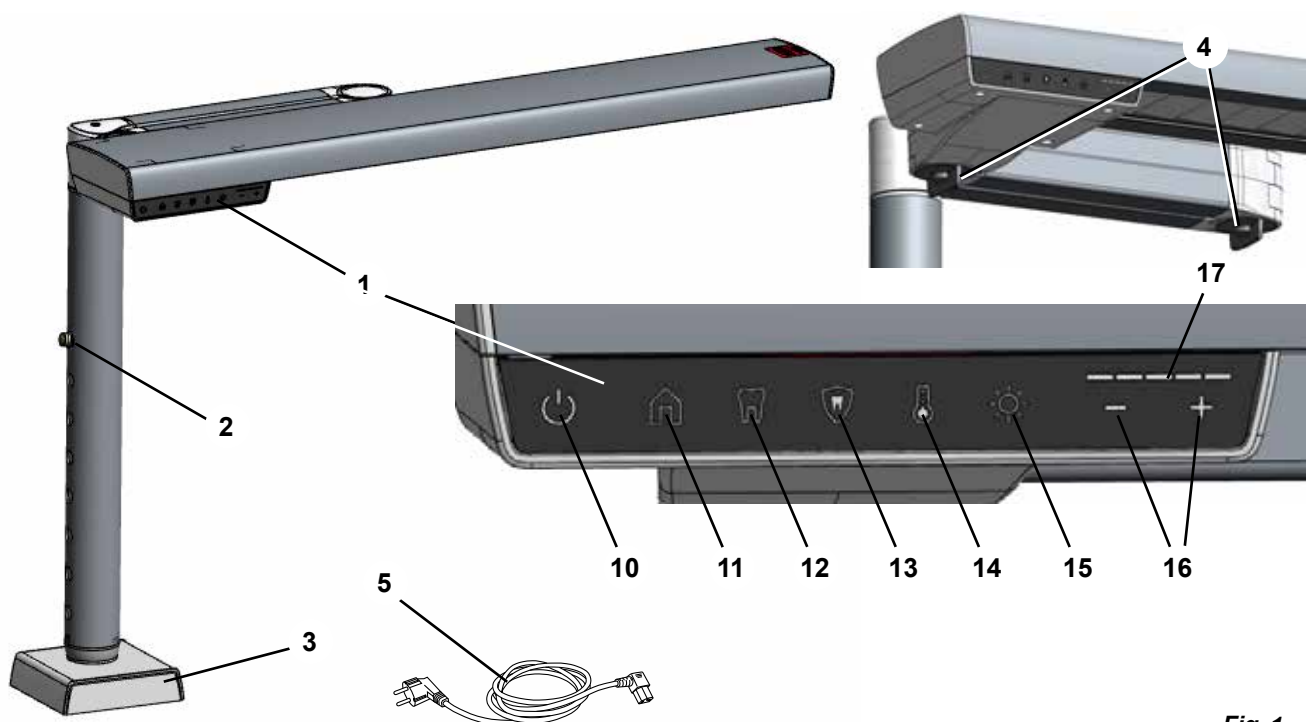

Fig. 1
- ⇒ Press in the height adjustment lock (2, Fig. 1) and pull out the inner tube on the base to the maximum position.
To determine the appropriate mounting location, loosen the joint lock (4, Fig. 1) and check that you can move the workstation light to the optimal position described above (Chapter 4.2.1).
- ◆ The brightness button (15, Fig. 1) lights up.
- ◆ The current brightness value is displayed in the intensity display (17, Fig. 1).